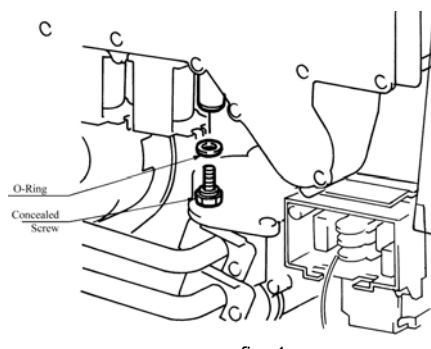

fig. 2
- 5) Attach pressure gauge to burner test point. (fig. 2)